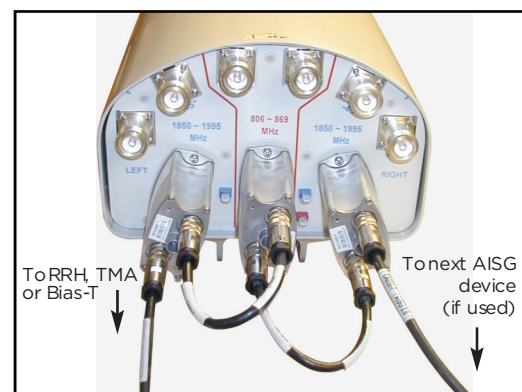

Figure 2 Typical daisy chain configuration
1. On the antenna connector end plate select one RET on the left or right side of the antenna. The selected ACU is the one that will receive the AISG cable from either the BTS/RRH or the AISG TMA as shown in **figure 2**. This AISG cable is connected to the AISG port, male type, of the selected ACU (ACU #1).